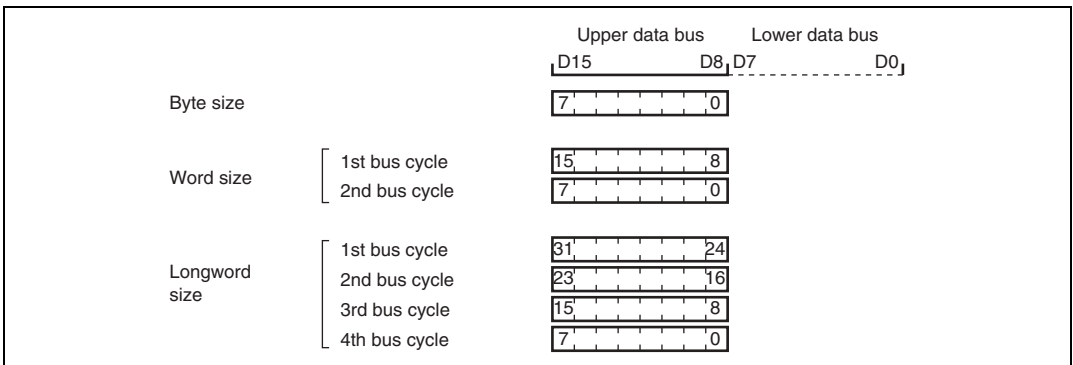

Figure 6.3 Access Sizes and Data Alignment Control (8-bit Access Space)
(1) 8-Bit Access Space: Figure 6.3 illustrates data alignment control for the 8-bit access space. With the 8-bit access space, the upper data bus (D15 to D8/AD15 to AD8) is always used for accesses. The amount of data that can be accessed at one time is one byte: a word access is performed as two byte accesses, and a longword access, as four byte accesses.